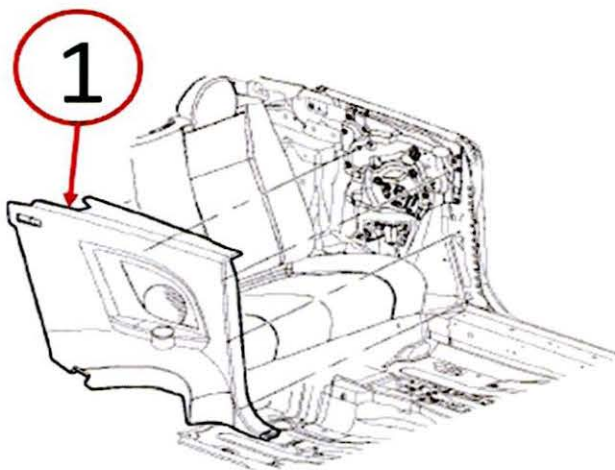

Fig. 4 Quarter Trim Panel
5. Using a trim stick or equivalent, gently pry out on the left quarter trim panel and remove from vehicle (Fig. 4).